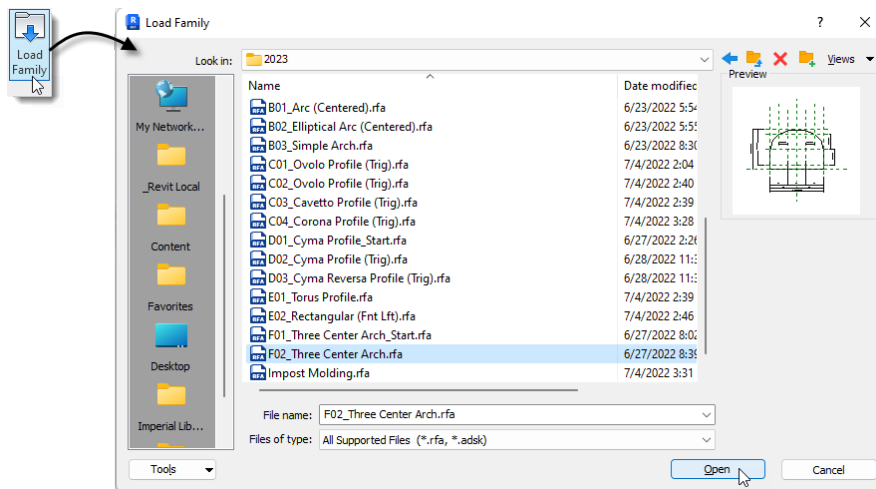

Figure 48—Load the previously created profile families
- ⇒ Select the file named: *F02_Three Center Arch* and then click Open (see Figure 48).